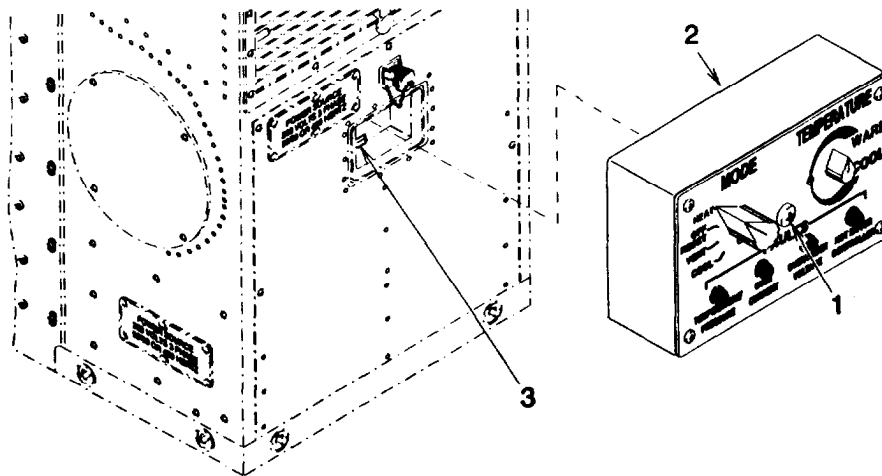

Figure 3-27. Control Panel
- a. Removal. Loosen screw (1) Figure 3-27 and carefully remove control panel (2).
- (1) Install individual components and wiring harness per paragraphs 3-21 through 3-24.
- (2) Install screw (7), flat washer (8), and new self locking nut (6). Screw must turn freely, do not tighten self locking nut.
- (3) Carefully assemble control panel (4) onto control box (5), being careful not to damage or pinch wiring harness leads, and align mounting holes.
- (4) Install four screws (1), new lock washers (2), and flat washers (3).
- e. Installation. Carefully align the control panel (2) Figure 3-27 connector with the air conditioner connector (3) and tighten screw (1).